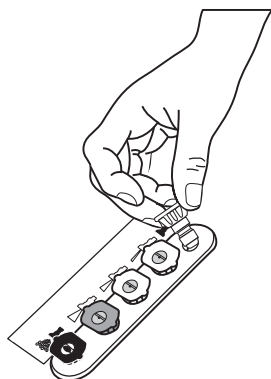

Figure 3-1
- Remove the colored quick-connect nozzles from the plastic bag and insert them into correct grommet on the nozzle holder. Nozzles are color coded to match colored nozzles on label. See Figure 3-1.